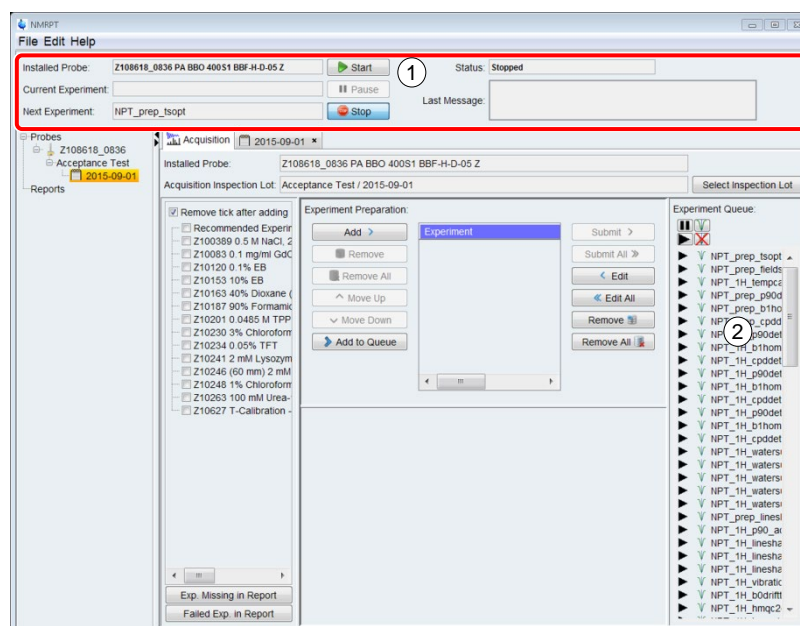

Figure 3-13: Start of Experiment Queue
16. Click **Start** (Figure 3-13 (1)) located in the **Acquisition Bar** to start the sequence of experiments as listed in Experiment Queue (Figure 3-13 (2)).